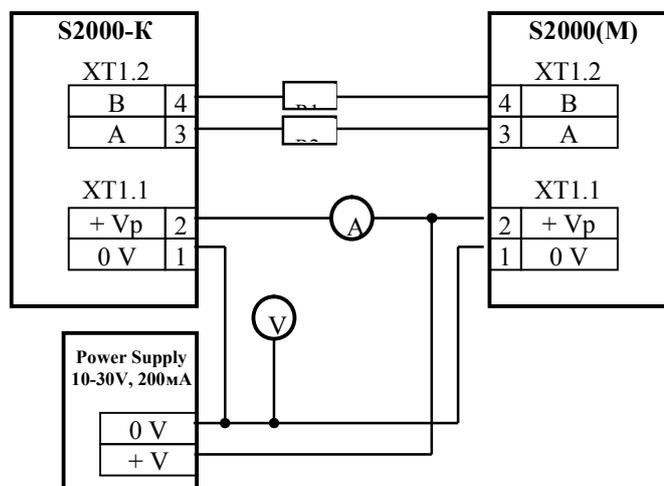

Figure 14. Wiring the S2000-K While Testing the Keypad Operability
- Test S2000-K operability having wired the keypad as shown in Figure 14. The testing procedure has been described below in this Section.
For testing operability of the S2000-K, wire the keypad as shown in Figure 14. Two resistors of 220 Ω and 0.125 W, R1 and R2, shall be brought between the S2000/S2000M console and the S2000-K keypad as shown in the diagram in order to introduce damping into the communication line between the devices.
1. Establish the test set-up as shown in Figure 14, not connecting wires of the RS-485 bus to terminal blocks of the S2000(M) console. Set the keypad power supply voltage equal to (10.2 ± 0.3) V.
5. Press the keypad tamper switch and keep it pressed for at least 15 s; then release this one. The S2000(M) console shall receive a tamper alarm from the keypad. Then press the keypad tamper switch once more and hold it until the console receives a tamper restored notification from the keypad.